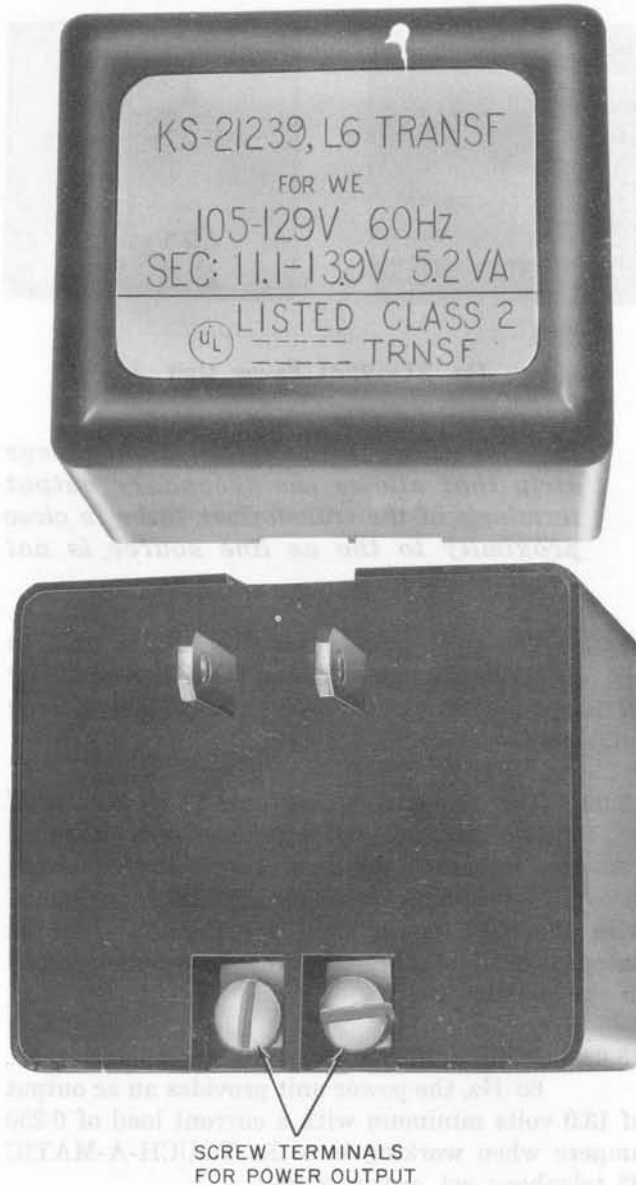

Fig. 18—KS-21239L6 Transformer
**11.01** The KS-21239L6 transformer (Fig. 18) is used to furnish power for the 24A-type line status indicator.
**11.02** The transformer is self-protecting with an automatic thermo switch and is provided with primary terminals in the form of parallel blades which serve as the mounting means. Recessed screw-type secondary terminals are provided on the same side of the transformer as the primary terminals. Refer to Fig. 18 for electrical specifications.